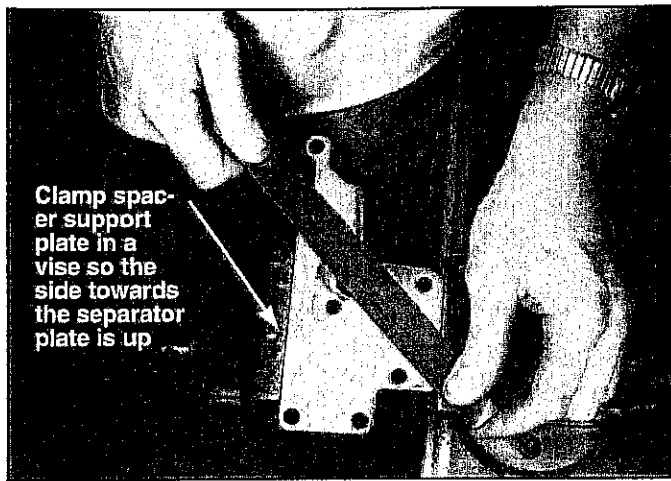

FIGURE 32
STEP 6. Clamp the spacer support plate in a vise and run a file across the surface that will contact the separator plate. (See Fig. 32) You want the spacer support plate to be flat. If your plate is bent or excessively warped, it should be replaced. (Chevrolet Part No. 338905)